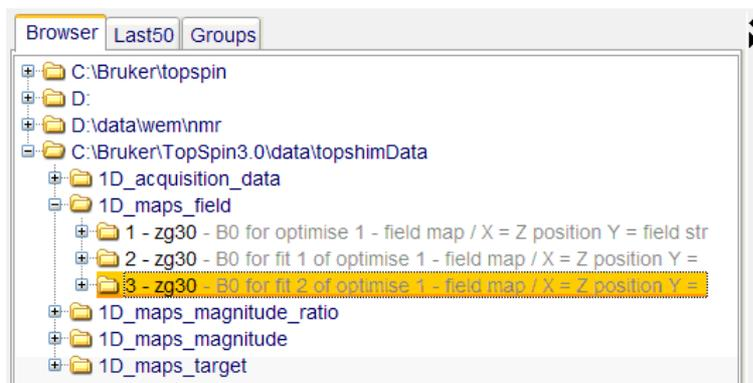

Fig. 1. Locate the topshimData directory in topspin.
Topshim creates datasets in a user directory named "topshimData", see Fig. 1. Each topshim command overwrites previously existing data in topshimData. Therefore, you are responsible to save any data that you would like to keep.
*Topshim map* displays the current  $B_0$  field graph in *expno 1*, while *topshim plot* may create several *expnos*, depending on the number of iterations that *topshim* has decided to do. The highest *expno* shows the current  $B_0$  field graph (see Fig. 1).